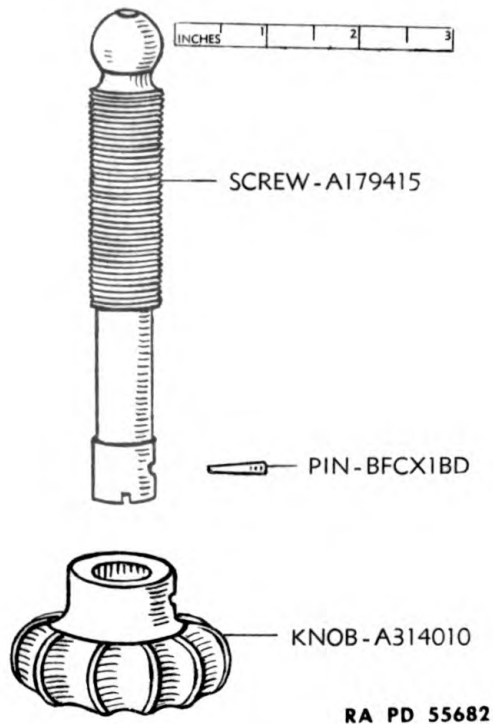

Figure 27—Elevating Knob and Elevation Screw—Exploded View
b. Elevating Knob Removal. Drive out the taper pin BFCX1BD from the elevating knob A314010 and remove the knob from the elevation screw (fig. 27).